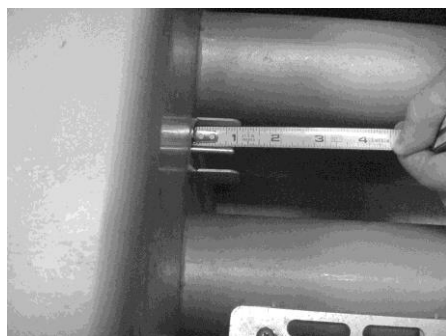

Figure 2-16
6. Place the nut and new ferrule on the new probe and insert the probe into the compression fitting until it extends one (1) inch (2.54cm) into the frypot. Figure 2-16.